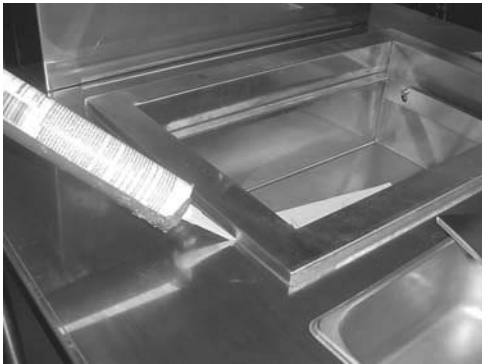

Figure 5
8. Using silicone sealant (silicone or equivalent sealant must be NSF listed material), seal the refrigeration unit to the table top. Figure 5.